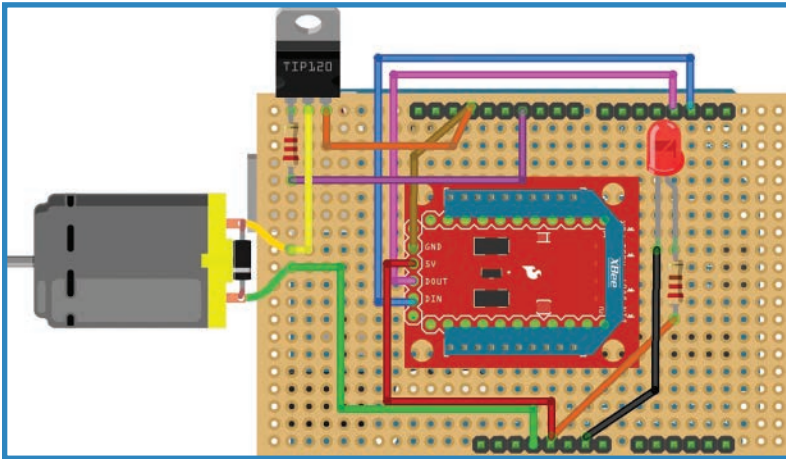

FIGURE 11.15 Connect the pump and diode.
- e. Add the pump and diode. The diode helps keep the motor from feeding back on itself, and it's a good idea to include one every time you use a DC motor, of which this pump is an example. One lead (shown as a green wire in Figure 11.15) of the motor connects to the 3.3V pin of the Arduino, while the other one (yellow) plugs into the center pin of the transistor, called the collector.